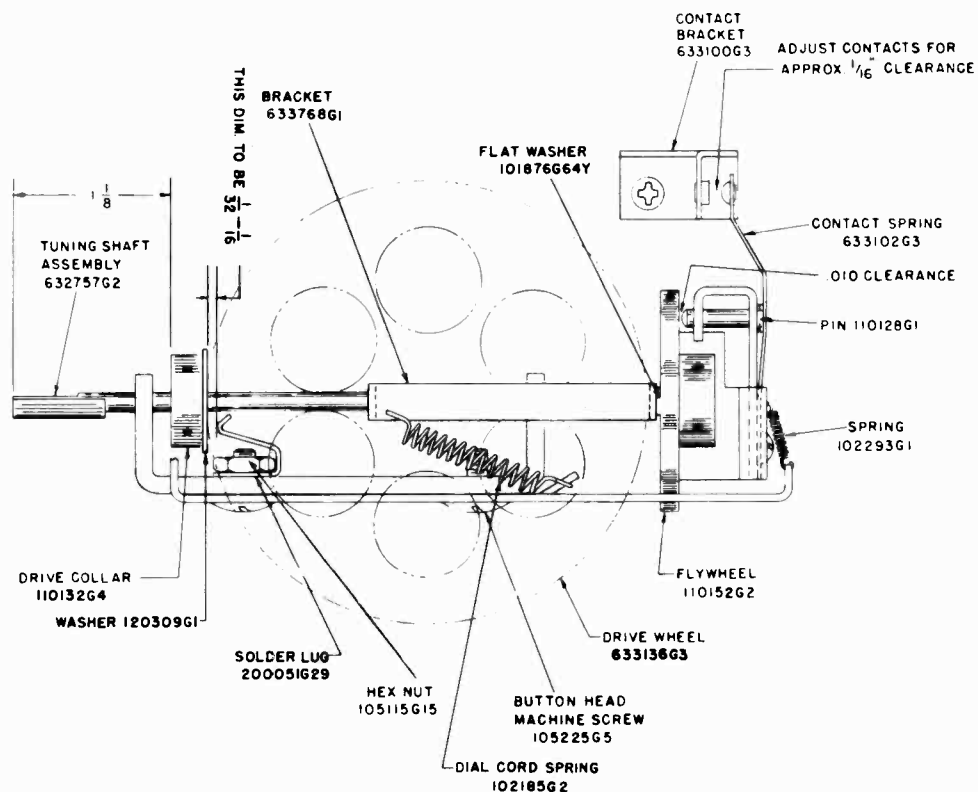

FIGURE 2
Whenever any of the mechanical parts in the condenser gang drive assembly require replacement due to rough handling or for any other reason, it is extremely important that clearances and adjustments shown on Figures 2 and 3 are correct; otherwise, the tuning mechanism will be sluggish or it may slip during operation.
1. Assemble the Tuning Shaft, Drive Collar, Bracket, Tension Spring, Washer, and Flywheel in the order shown on Figure 3. The distance between the front of the Drive Collar and the front of the Tuning Shaft must be  $1\frac{1}{8}$  inches as specified on Figure 2. Install